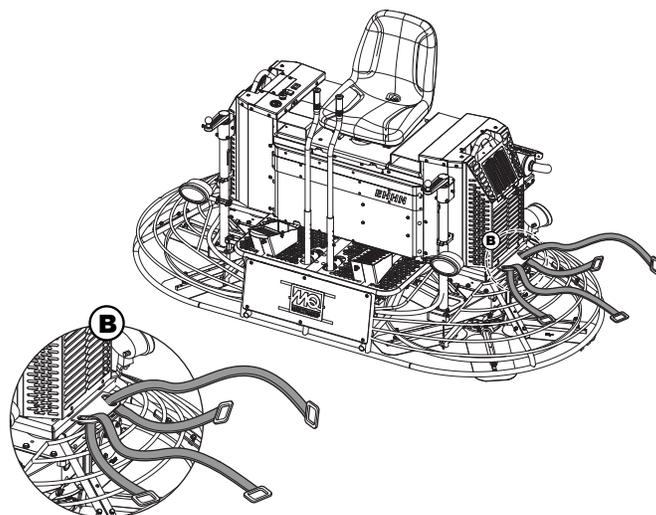

Figure 3. Routing Tie-Down Straps
2. Attach suitable tie-down straps to the trowel. Route the tie-down straps on both sides as shown in Figure 3.